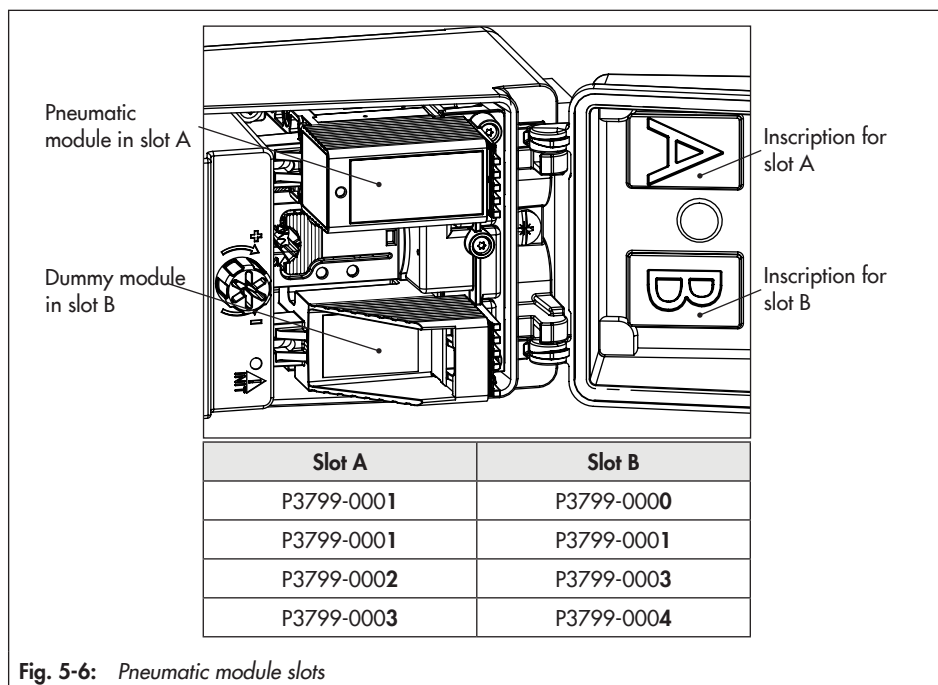

Fig. 5-6: Pneumatic module slots
Two slots are available for the pneumatic modules in the positioner (see Fig. 5-6).
1. Observe permissible combinations of pneumatic modules specified in Fig. 5-6.